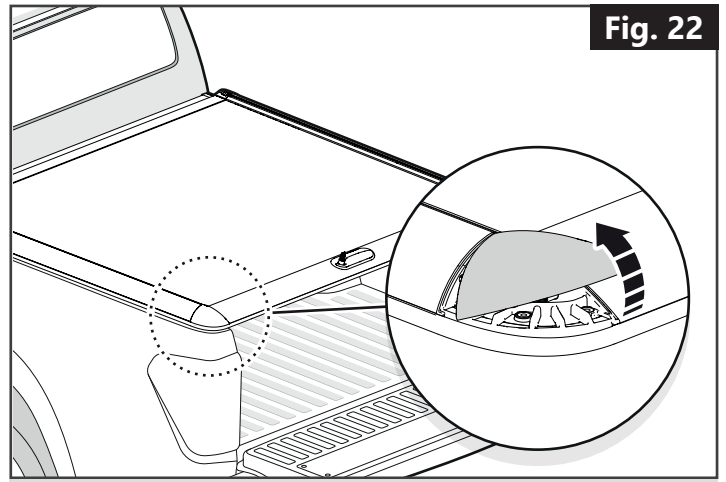
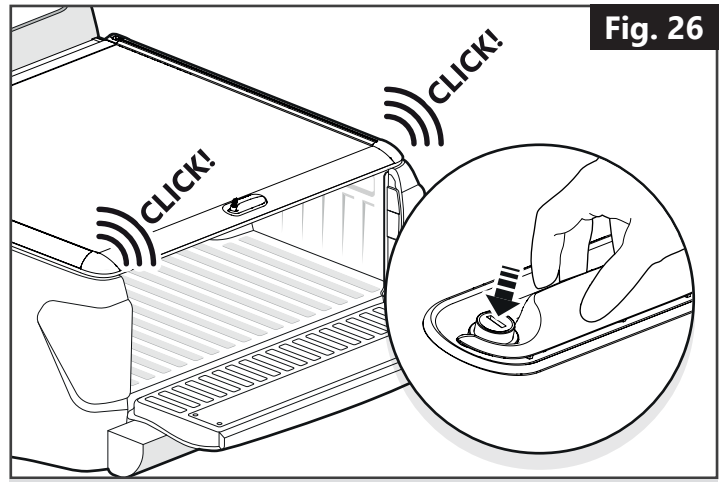

Fig. 22
Fig. 26
- 4) Lift the plastic cover. This may require force, as the the plastic binds with the sealing. **(Fig. 22)**
- 8) Close the cover, and press the lock release button **(Fig. 26)**. If the cable has been positioned correctly, both sides of the cover should unlock at the same time. If not, return to **(Fig. 22)**, and adjust the lock cable again.